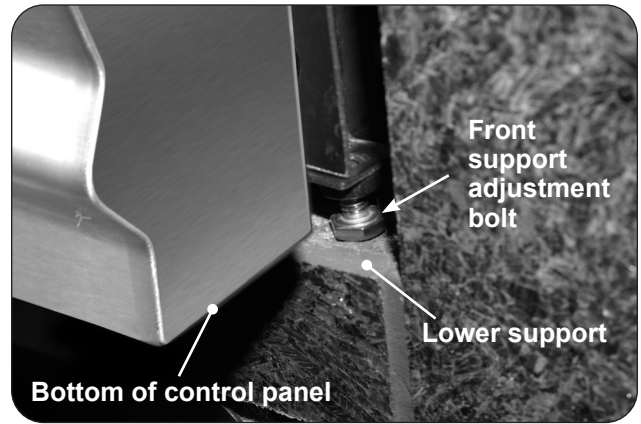

Fig. 25-1 Front support adjustment bolts
2. Rotate the front support adjustment bolts (up or down) until the grill hanger rests flush on the countertop, AND, the adjustment bolts are touching the supporting structure found at the bottom of the cutout (lower support). Use a  $7/16$ " open-end wrench as needed. See Fig. 25-1.